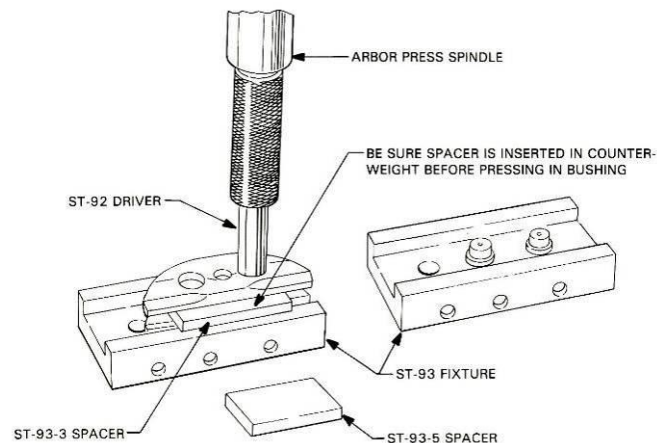

Figure 1
3. Use the arbor press spindle and counterweight bushing driver ST-92 to press both bushings out from one side of the counterweight. Refer to Figure 1.
5. Install the correct spacer ST-93-3 (0.370 in. or 94 mm) thick or ST-93-5 (0.440 in. or 11.2 mm) on the counterweight. Refer to Figure 1.
10. Install the correct spacer ST-93-3 or ST-93-5 on the counterweight. Refer to Figure 1.